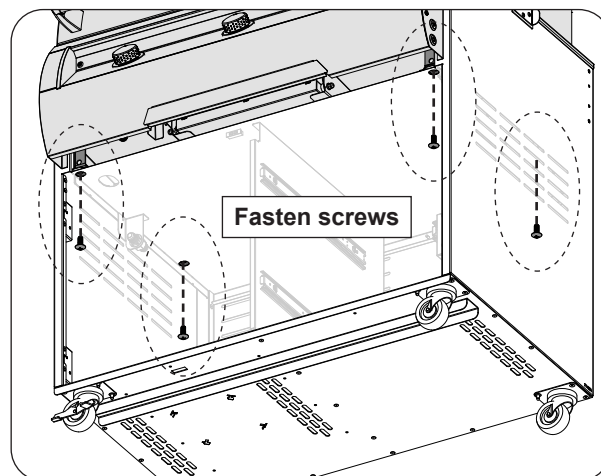

Fig. 11-3 Secure appliance to cart base
5. Open the cabinet door. Fasten the four included screws to the appliance's front and rear legs from inside the cabinet using a Phillips head screw driver. See Fig. 11-3. Tighten securely.